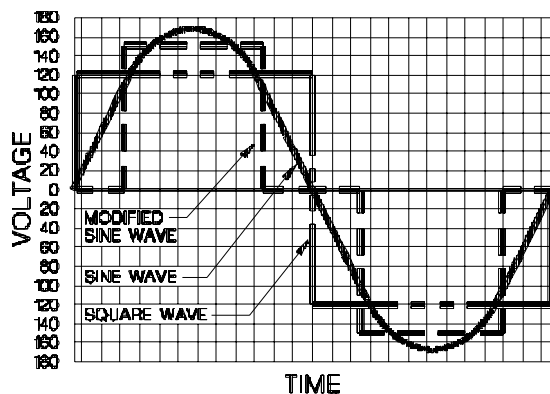

Figure 1 Comparison of Modified Sinewave, Square Wave and Sinewave
**Impedance** Opposition to flow of alternating current (AC)
**Modified Sinewave** Also called a quasi waveform or a modified sine wave. This output looks like a one step staircase. Most loads that will run from a sinewave will run from a modified sinewave. However things such as clocks and furnace controllers may have trouble. (See Figure 1).
**Resistance** The opposition to flow of direct current (DC)
**Sinewave** A waveform that looks like rolling waves on water. It rises and falls smoothly with time. The grid puts out a sine waveform. Any plug in AC equipment will operate from a sinewave output. (See Figure 1).
**Square Wave** The simplest wave form, this is shown below. Some types of equipment behave strangely when run from a square wave.(See Figure 1).